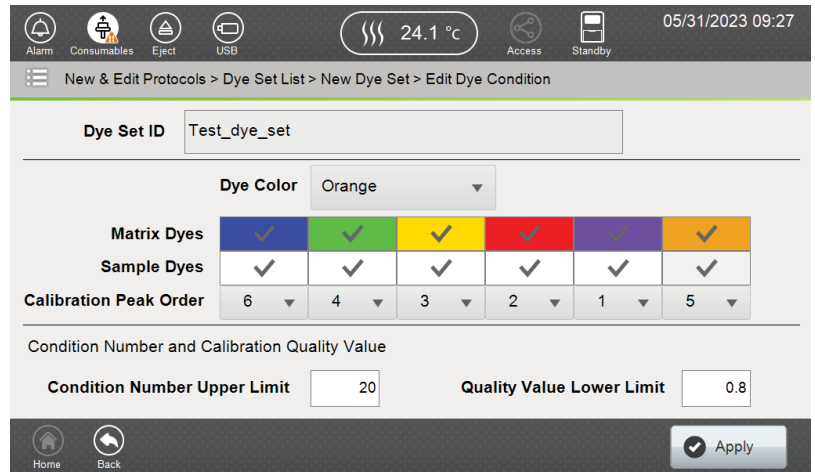

Figure 148. Adding Condition Number and Quality Values to the 'Edit Dye Condition' screen.
7. Enter the values for Condition Number and Quality Value (Figure 148). Select **Apply**.